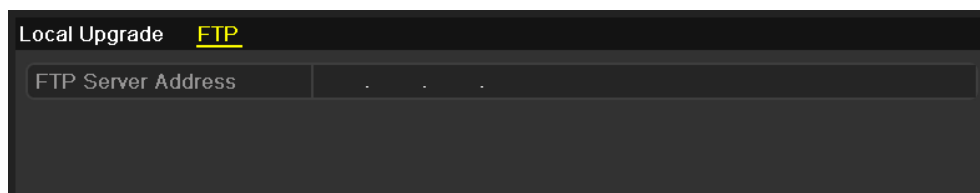

Figure 270 FTP Upgrade Interface
2. Click the **FTP** tab to enter the local upgrade interface, as shown in Figure 270.